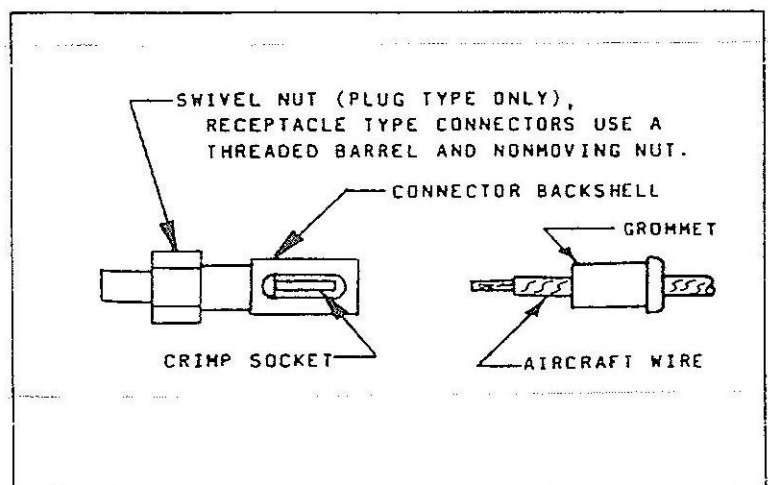

Figure 1
- Strip the insulation back 5/16" and thread the grommet onto the wire (Figure 1).